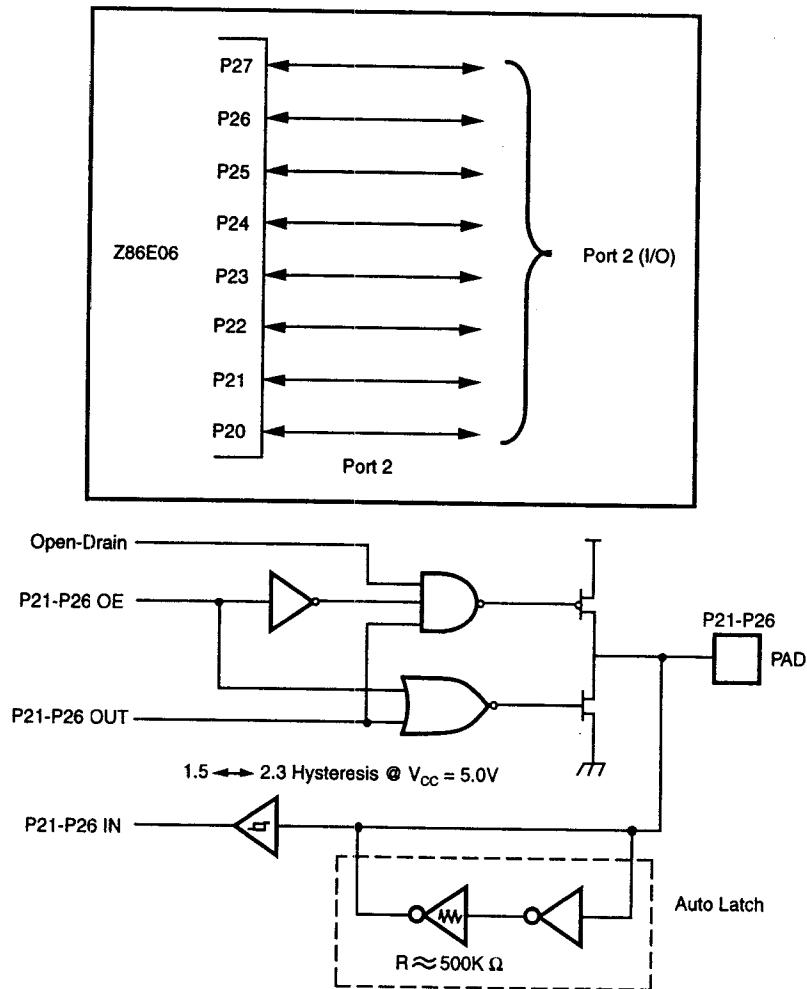

Figure 4a. Port 2 Configuration (Z86E06)
**Port 2 (P27-P20).** Port 2 is an 8-bit, bidirectional, CMOS compatible I/O port. These eight I/O lines can be configured under software control to be an input or output, independently. Input buffers are Schmitt-triggered and contain Auto Latches. Bits programmed as outputs may be globally programmed as either push-pull or open-drain (Figure 4a., 4b., and 4c.). Low EMI output buffers can be globally programmed by the software. In addition, when the SPI is enabled, P20 functions as data-in (DI), and P27 functions as data-out (DO) for the SPI (SPI on the Z86E06 only).